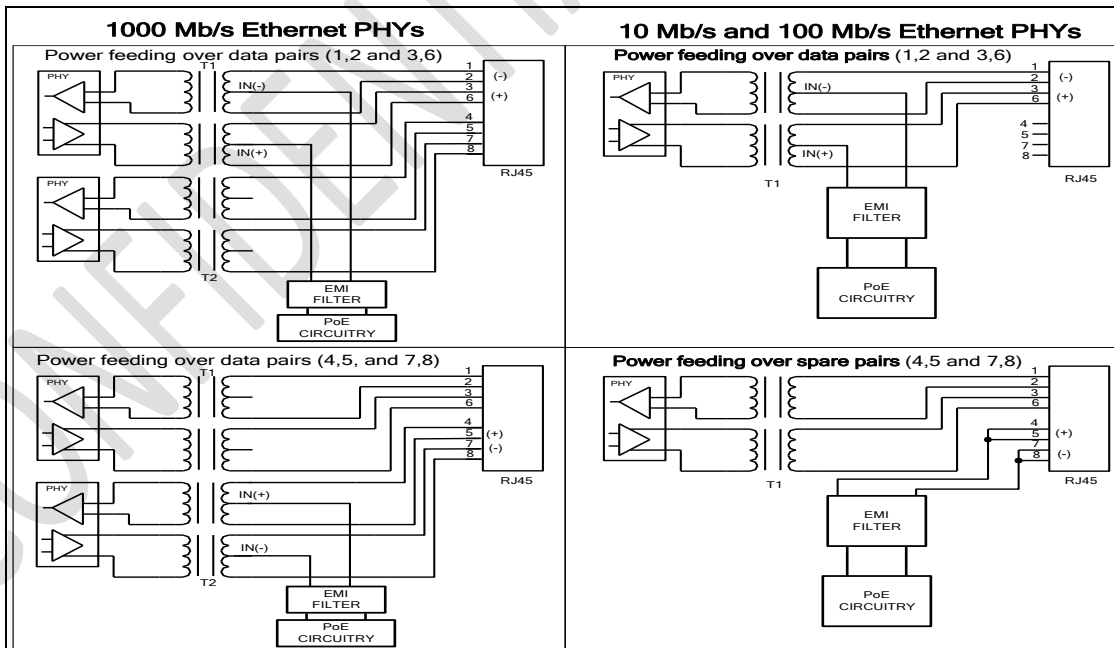

Figure 11: Output Ports Design Details
As specified in the IEEE PoE standards, PoE output power can be supplied over the data pairs or the spare pairs. Both methods are detailed in Figure 11 which illustrates an MDI-X (or Auto MDI-X) connection associated with the switch.
- ◆ The PoE ports outputs must be connected to the switch's pulse transformers as shown in Figure 11. The common mode choke and 'Bob-Smith' termination (resistor-capacitor) to chassis ground are optional and used to reduce RFI noise. The circuit is to be located as close as possible to the pulse transformer.